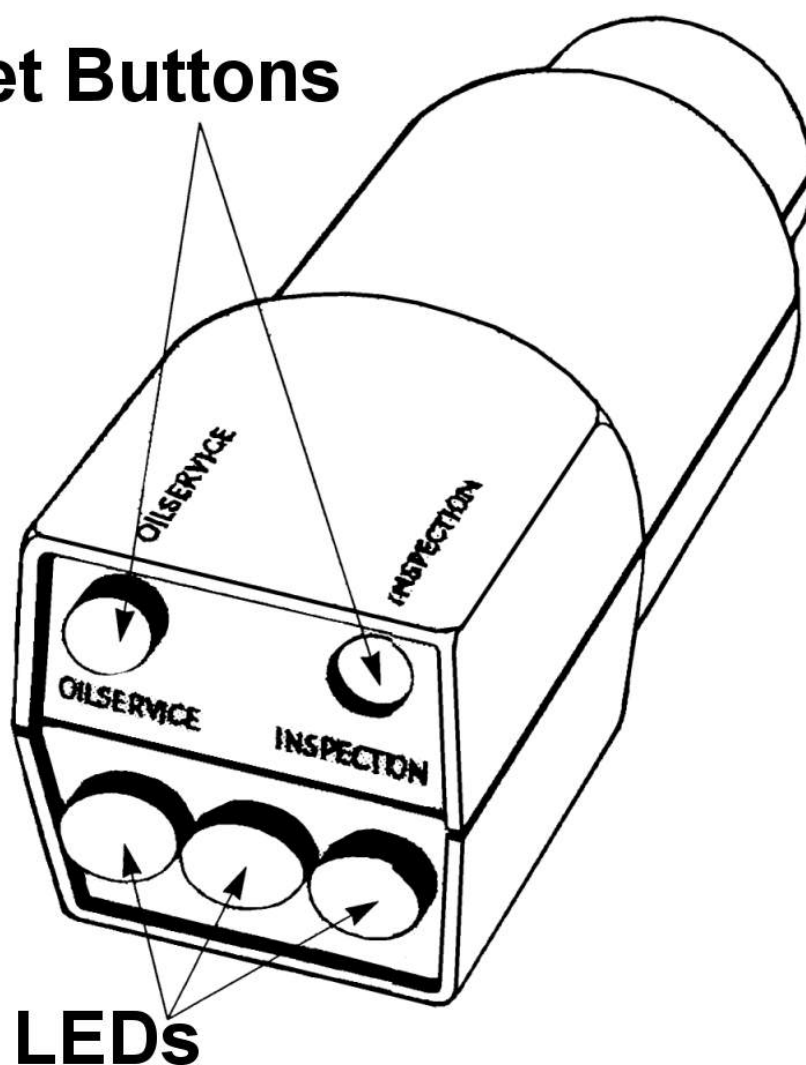

Fig. 2: Identifying BMW Service Interval Reset Tool
1. To reset instrument cluster SIA OIL SERVICE indicator, turn ignition switch to ON position. Connect Service Indicator Resetter (62 1 110) to diagnosis connector in engine compartment. See Fig. 2.